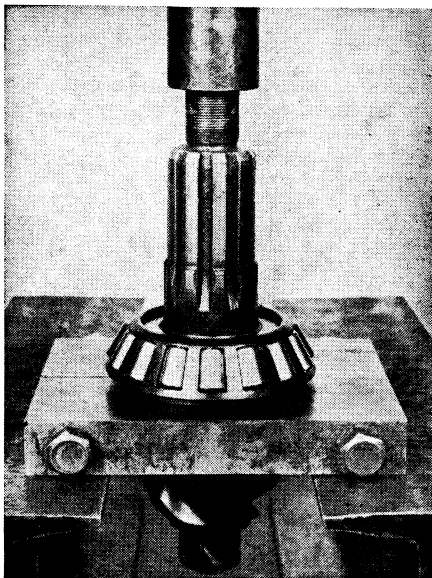

Fig. 100 Remove pinion shaft bearings with bearing puller
4. Remove rear thrust bearing, Fig. 100, and radial bearing with bearing puller if necessary to replace.